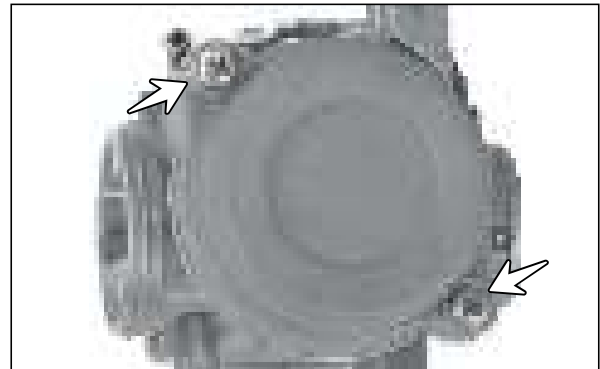

Fig. 4.19
- Remove CRR pan head screws (2 Nos.) and take out cover diaphragm. (Fig. 4.19)